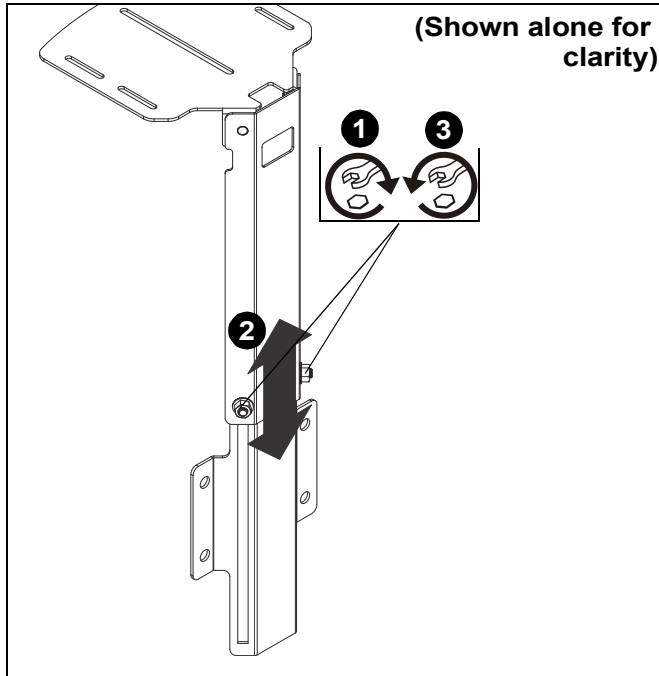

Figure 3
1. Loosen two hex nuts that attach two brackets of attachment plate (B) to each other. (See Figure 3)
2. Adjust shelf height as desired. (See Figure 3)
3. Tighten two hex nuts that were loosened in Step 1. (See Figure 3)